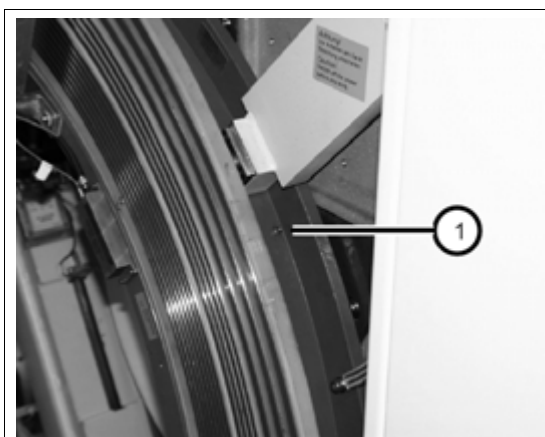

Fig. 8: Grease fitting, upper right side in the back of the gantry
- Connect the grease gun to the lubrication fitting (1/Fig. 8 / p. 41).